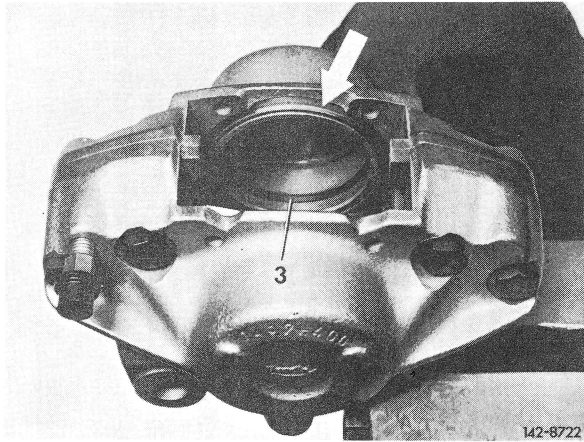

Fig. 10
**9** Rub new piston seal (3) lightly with ATE-brake cylinder paste and insert into groove of cylinder bores (Fig. 10).
**Note:** When repairing Bendix (Bx)-caliper, watch out for rigid and perfect seat of pressed-on ring (refer to arrow Fig. 10).